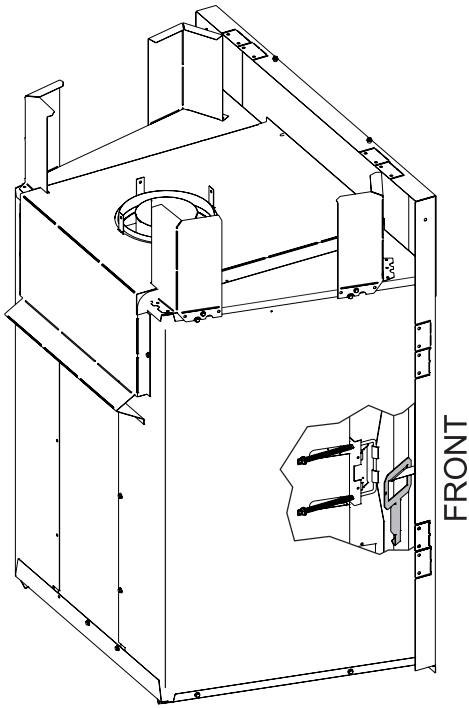

Figure 83
1. The glass latch tool is shipped with the unit attached to the left hand side, and may be stored on a hook inside the left hand side of the firebox cavity. **See Figure 83.**